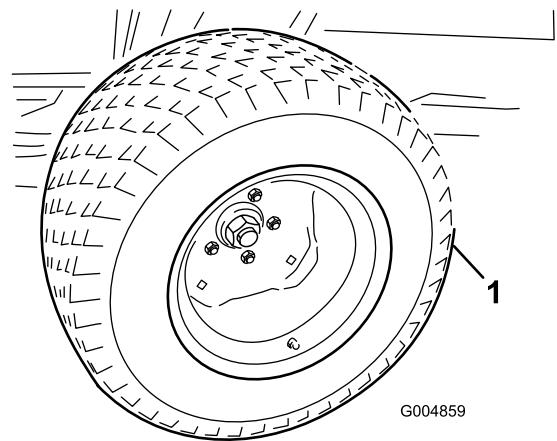

Figure 8
3. Install the drive tires (Figure 8).